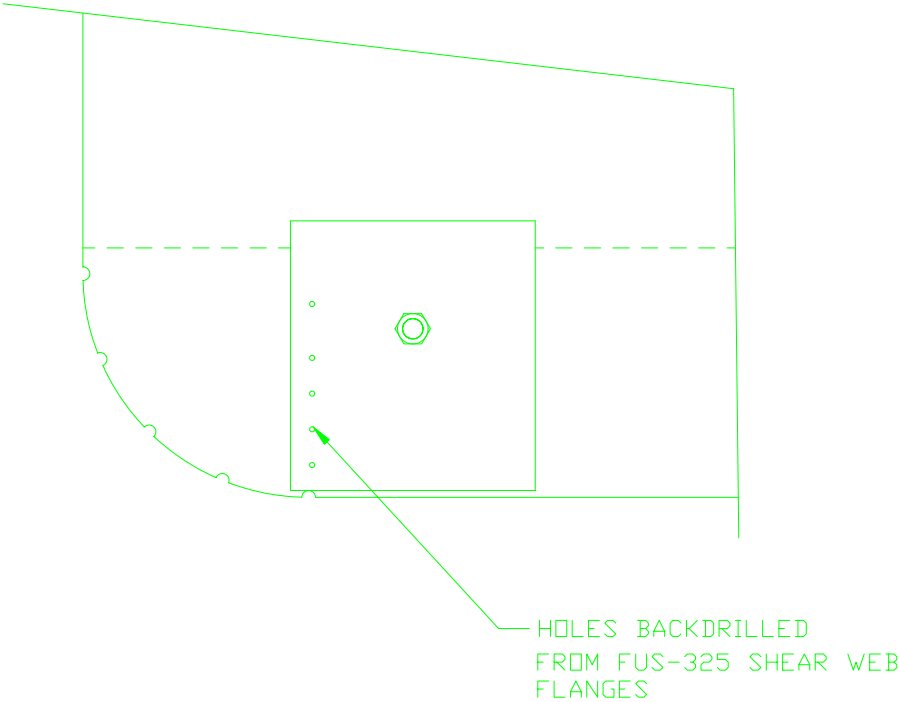

FIGURE 31
62) Use a short 3/8" bolt to position a doubler on the firewall. Figure 31. Back drill through the holes in the FUS-325 shear web flange. to #30.